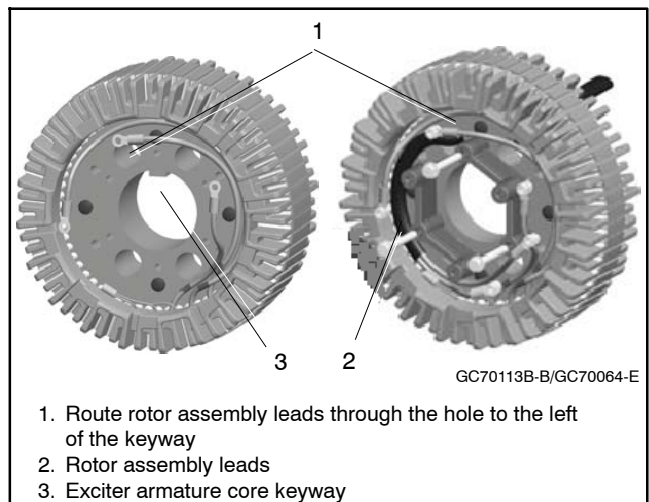

Figure 11-24 Exciter Armature/Rotor Leads
25. Install exciter armature with leads to the outside over service tool Y-5803. Route the rotor leads through the hole to the left of the keyway in the exciter armature core. See Figure 11-24.